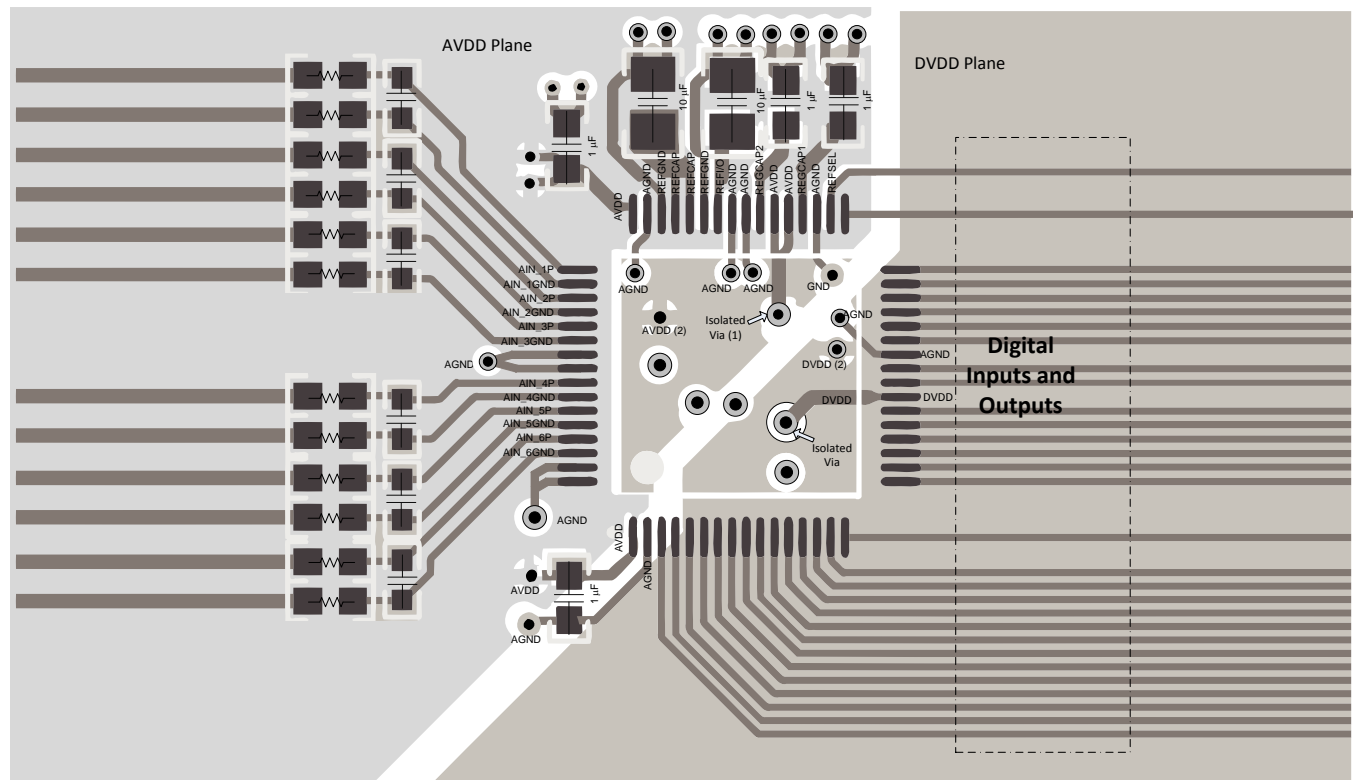
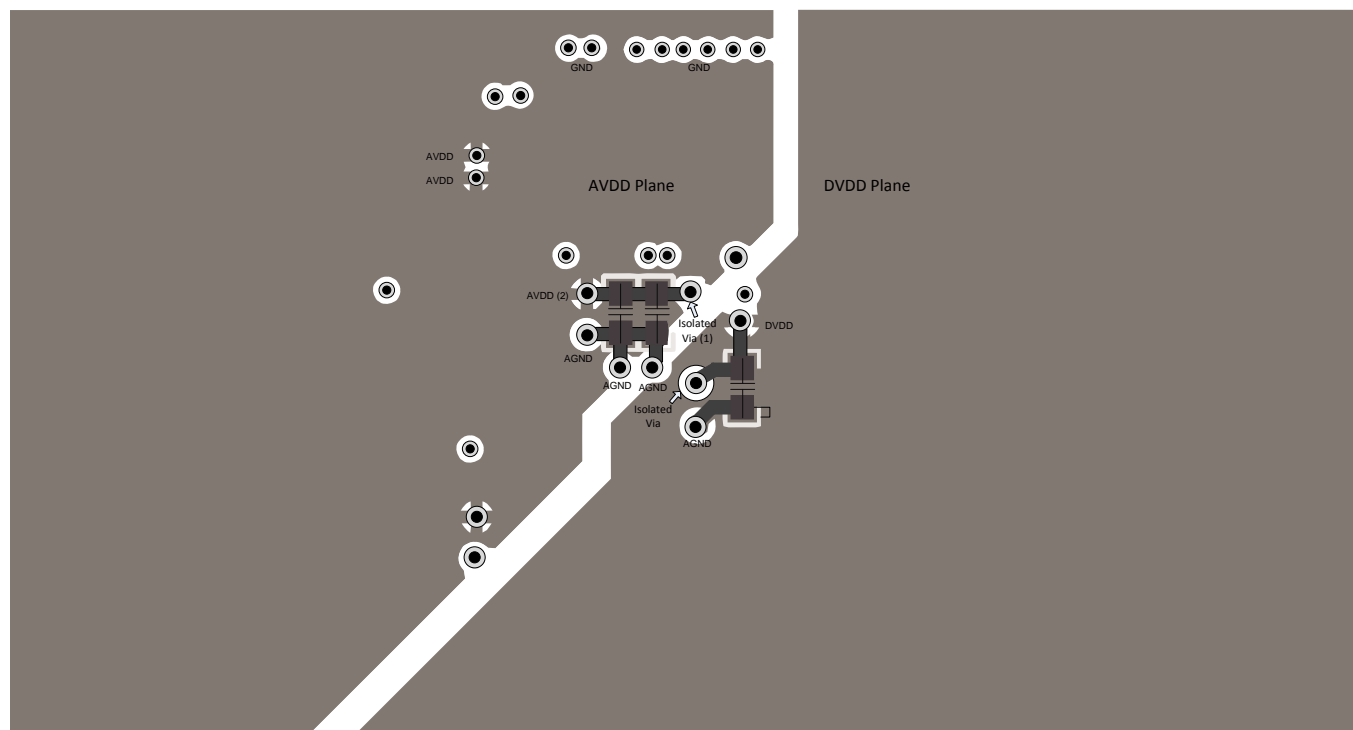

Figure 89. Top Layer Layout
Figure 90. Bottom Layer Layout
Figure 89 and Figure 90 illustrate a PCB layout example for the ADS8586S.
- Power sources to the ADS8586S must be clean and well-bypassed. As a result of dynamic currents during conversion, each AVDD must have a decoupling capacitor to keep the supply voltage stable. Use wide traces or a dedicated analog supply plane to minimize trace inductance and reduce glitches. Using a 1- μ F, X7R-grade, 0603-size ceramic capacitor is recommended in close proximity to each analog (AVDD) supply pins. Bypass capacitors for AVDD pins 1 and 48 are located on the top layer; see Figure 89. AVDD supply pins 37 and 38 are connected to bypass capacitors in the bottom layer using an isolated via (1); see Figure 90. A separate via (2) is used to connect the bypass capacitor to the AVDD plane.
- For decoupling the digital (DVDD) supply pin, a 1- μ F, X7R-grade, 0603-size ceramic capacitor is recommended. The DVDD bypass capacitor is located in the bottom layer; see Figure 90.
Figure 89 and Figure 90 illustrate a recommended layout for the ADS8586S along with proper decoupling and reference capacitor placement and connections.